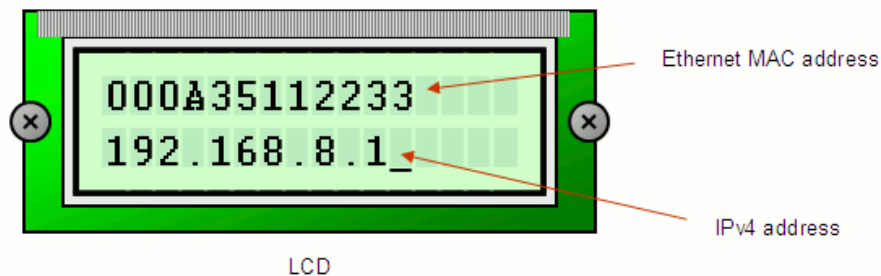

Figure 4-14: Board LCD Screen
2. Check the information displayed on the 16-character x 2-line LCD screen of the board (Figure 4-14). If no error occurred, the Ethernet MAC address (without colons) should appear on the first line of the LCD and the IPv4 address should appear on the second line.